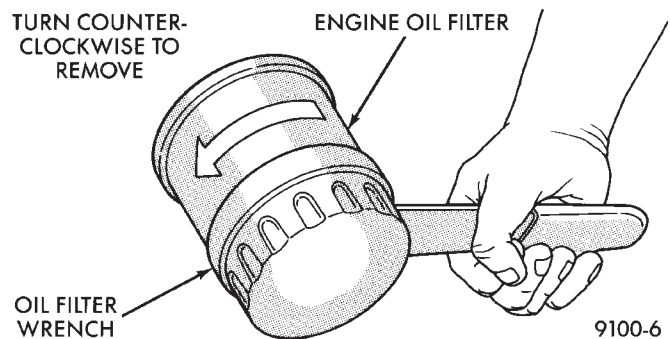

Fig. 8 Oil Filter Removal—Typical
- (1) Position a drain pan under the oil filter.
- (2) Using a suitable oil filter wrench loosen filter.
- (3) Rotate the oil filter counterclockwise to remove it from the cylinder block oil filter boss (Fig. 8).